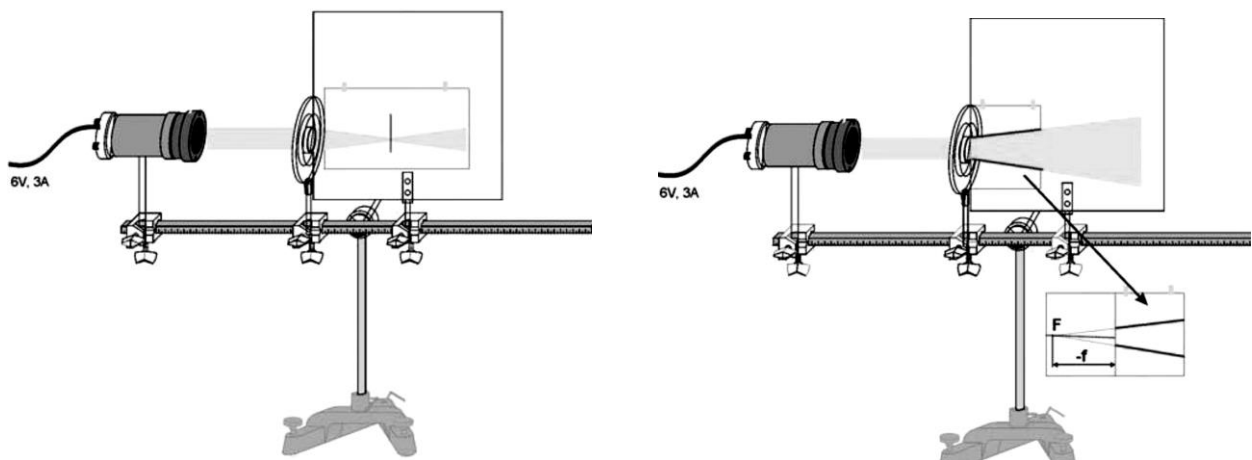

Figure 514.6. Experimental setup for determining the focal lengths of converging (left) and diverging (right) lenses using parallel rays
5. Mark the point of convergence of the refracted light (Fig. 514.6 (left)) and measure the focal length.
6. To find the focal length of the diverging lens, fold the paper twice and fix it on the screen so that the fold line coincides with the side of the screen near the lens (Fig. 514.6 (right)).
9. Take the paper off, trace the lines back to the intersection point, and determine the focal length (Fig. 514.6 (right)). Analyse the results.